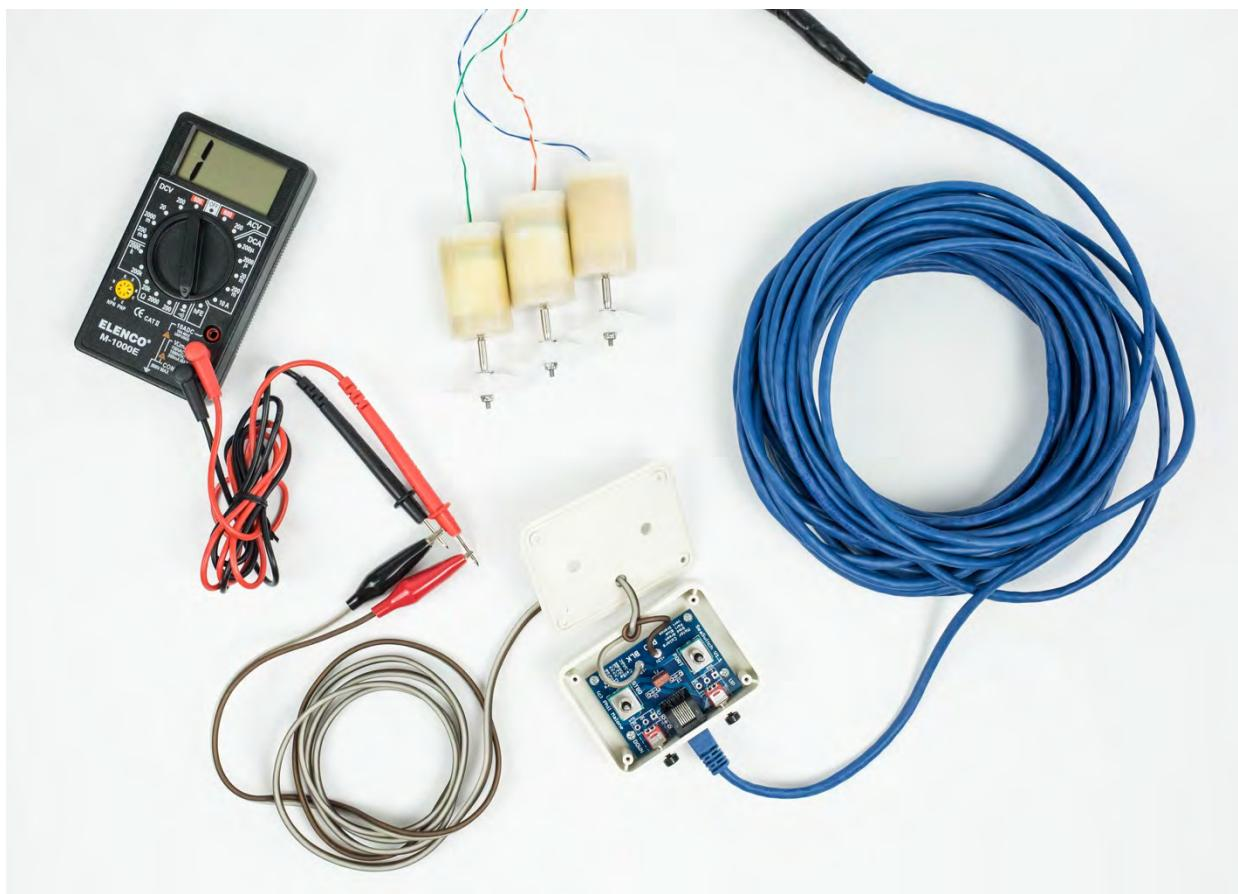

Figure 36
- Plug the tether cable connector into the controller's RJ45 connector jack. (Figure 36) The tether connector has a prong which must be oriented correctly to plug into the connector jack.